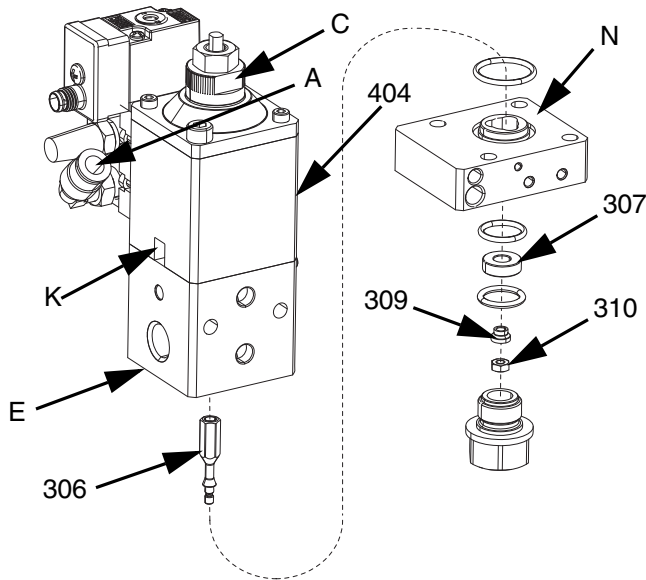

FIG. 14
- d. Use a small torque wrench with a 9 mm socket or crowfoot to tighten the ball assembly (203) to the piston rod (410). Torque to 8-10 in-lbs (0.9-1.1 N•m).
5. For snuff-back valves, place an Allen key through the piston rod (410) located in the Weep Hole (K). See FIG. 14.